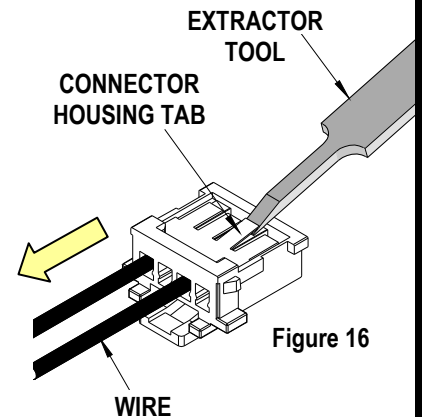

Figure 16
4. Gently lift up on the housing tab, and push the terminal back through the connector slot. While pulling the terminated wire out in the direction of the arrow. See Figure 16.